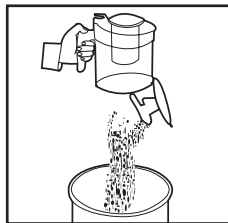

Fig.5
4. Over a waste bin, empty the dust container by pressing the dust container release button [20] on the handle (Fig.5).